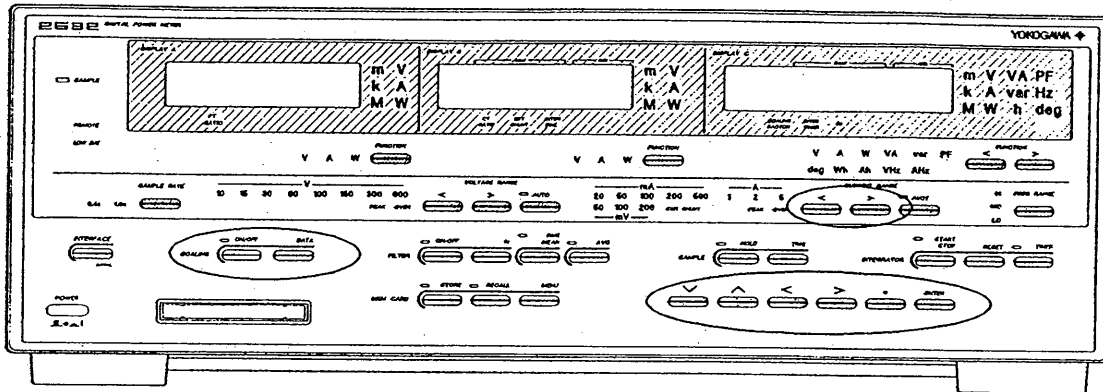

Figure 3.24 Scaling Factor Setup keys
In this instrument, scaling factors can be set up for the voltage, current, and power measured values. Since external potential transformers (PT), current transformers (CT), and external shunts can be used to measure inputs beyond the measurement range, this function is useful in that it allows the measurements to be scaled so that they can be read in terms of primary-side values. Scaling of power (SCALING FACTOR) can be used to convert measurements to different physical units, for example, to calorie values. Scaling factors are set up using the keys  encircled in Figure 3.24.